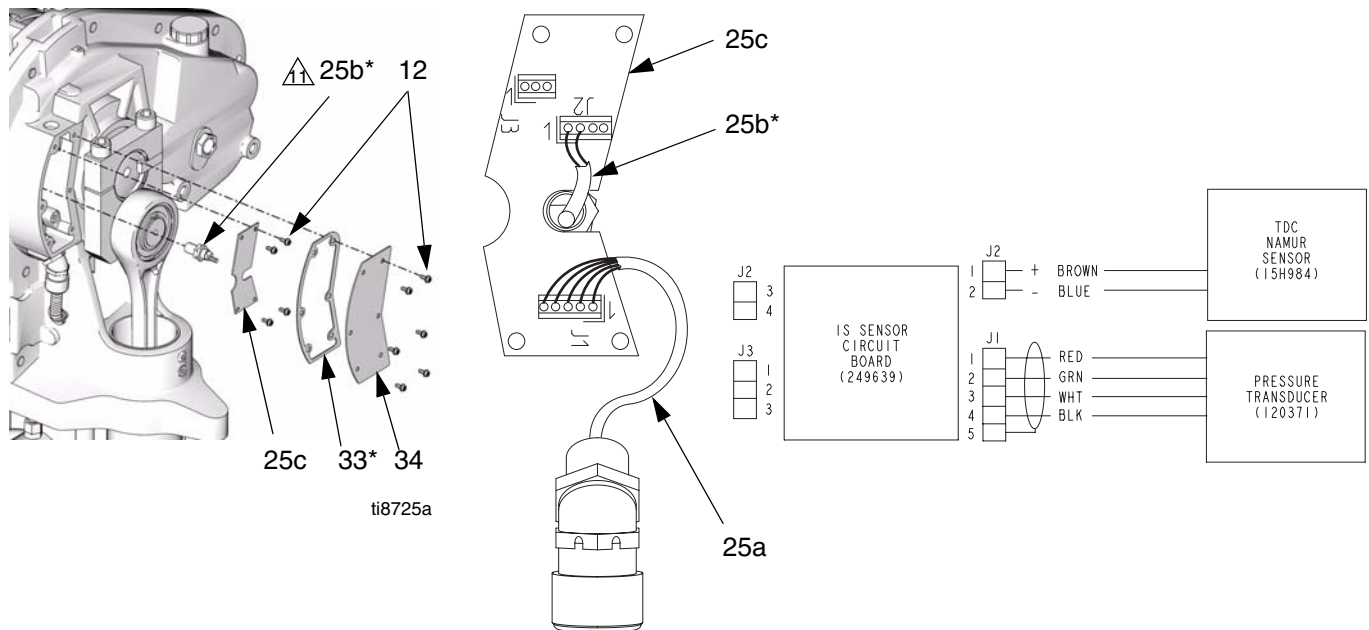

FIG. 1. TDC Sensor Kit
4. Remove two screws (12) and the cover (32).
5. See FIG. 1. Remove six screws (12), the circuit board cover (34), and the gasket (33).
9. Remove four screws (12) and the circuit board (25c).